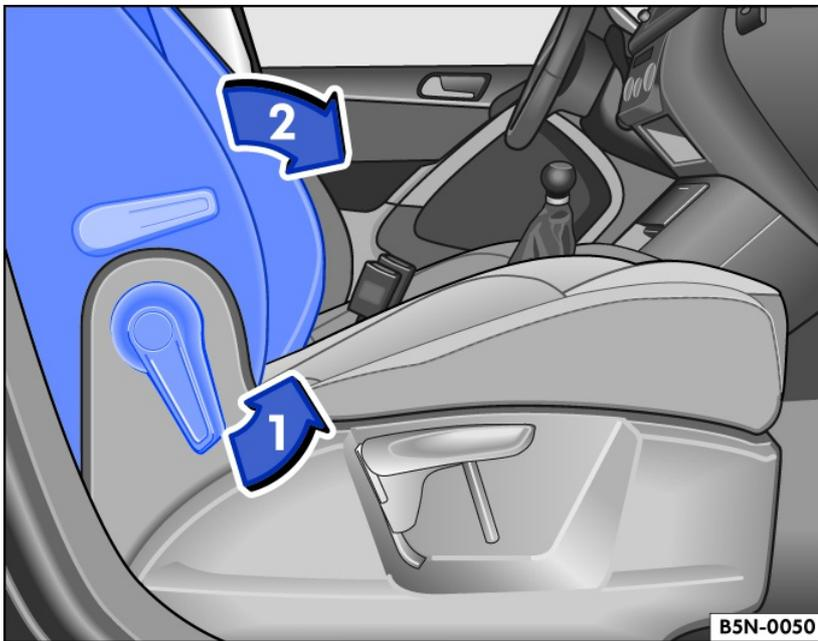

Fig. 79 Front passenger seat: Fold backrest forwards.
- Unlock the front passenger backrest in the direction of the arrows *fig. 79*.
- Fold the front passenger backrest forwards in the direction of the arrows *fig. 79* into the horizontal position.
- To unfold the front passenger backrest unlock it again *fig. 79*.